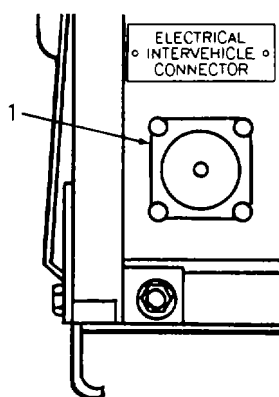

Figure 2-7. Heater Power Connection
- a. Operation In Extreme Cold. Refer to Figures 2-7, 2-8, and 2-9.
(1) Use proper viscosity engine oil for cold weather. Refer to Appendix H for the correct type of oil.